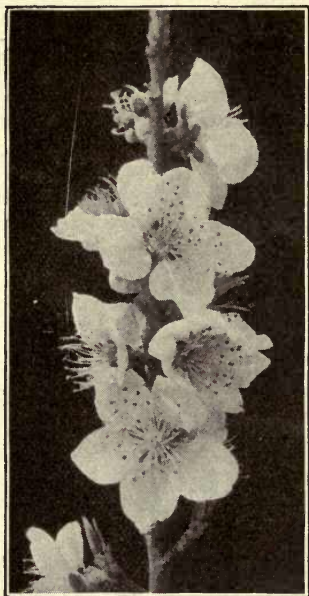

FIG. 273. — A Peach Twig.
**Flowers.** — Flowers grow on the higher forms of plants at a comparatively mature stage in their development (Figure 273). The flower is grown for the purpose of producing other similar plants. In order to understand